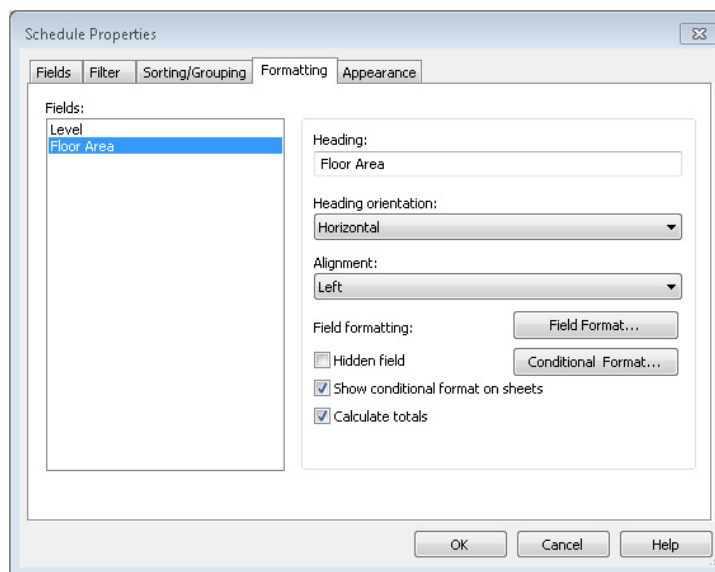

FIGURE 7.29 Calculating totals
5. On the Formatting tab, select the Floor Area field, and then click the Calculate Totals option (Figure 7.29). Click OK. This creates the schedule.